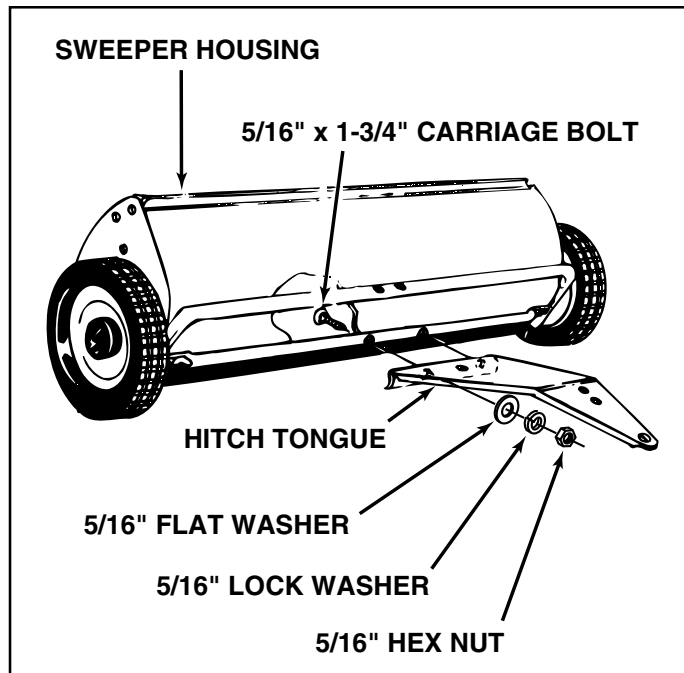

FIGURE 1
2. Remove the 5/16" hex nuts, 5/16" lock washers and 5/16" flat washers from the two 5/16" x 1-3/4" carriage bolts as shown in figure 1. Assemble the hitch tongue to the sweeper, reusing the same two carriage bolts, flat washers, lock washers and hex nuts. **Do not tighten at this time.**
5. **Tighten** (do not overtighten) the two hex nuts used to secure the hitch tongue in figure 1, making sure the brace rod is under the brace rod clip and pulled back tight against the bolt. See figures 1,2 and 3. Now **tighten** all other bolts assembled so far.